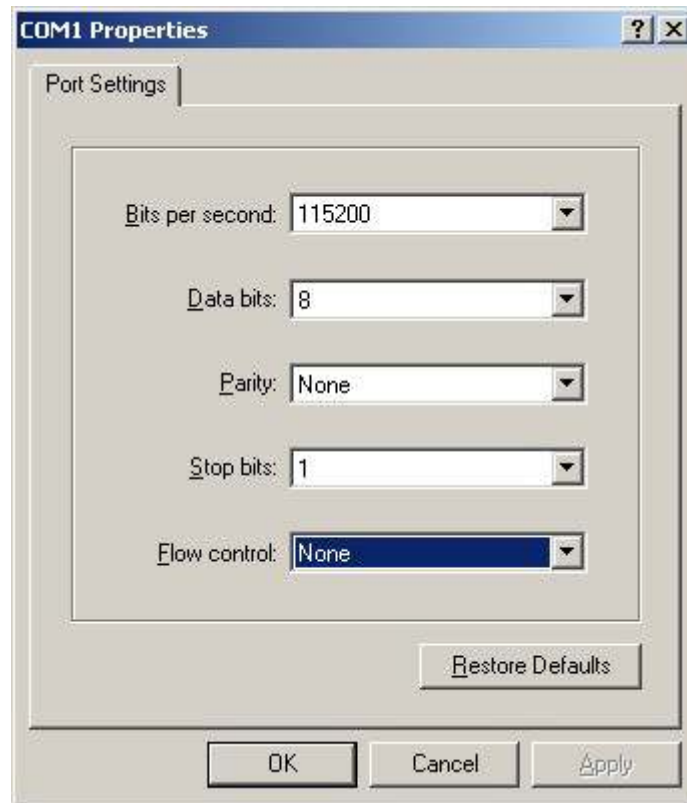

Fig. 3.1.3 Serial ports parameter setup
**Step 3’:** to select the communication port. Select “com1” communication port in Fig3.1.2, press “OK”, the dialogue box as Fig. 3.1.3 will appear.